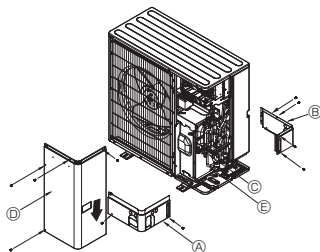

Fig. 5-3
5.3. Aukstumaģenta caurules (Fig. 5-3)